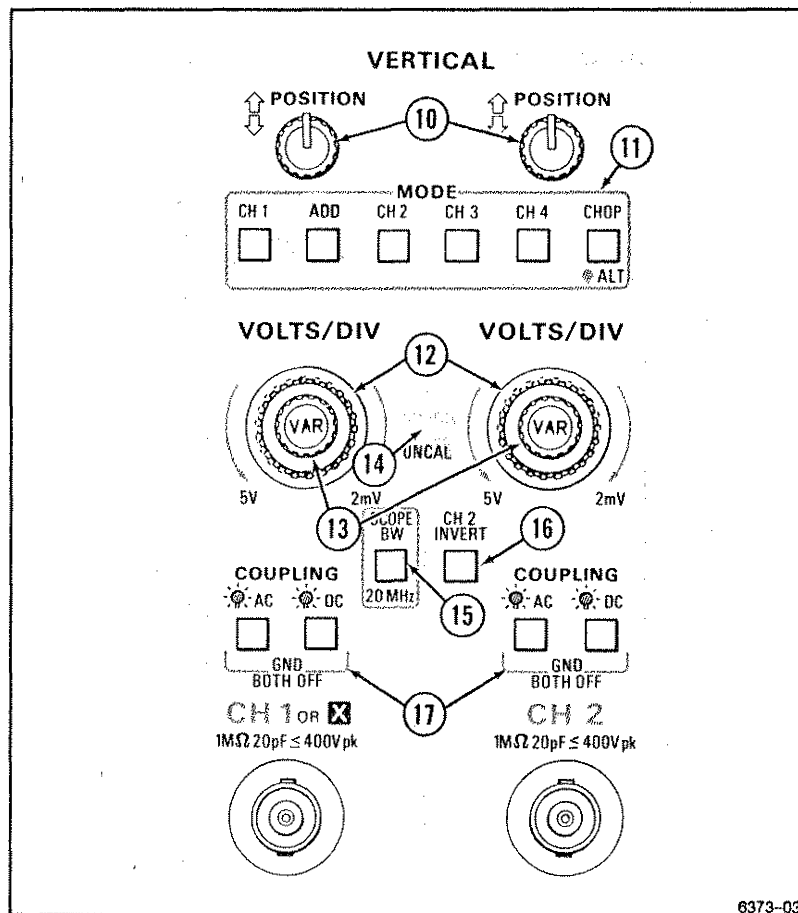

Figure 2-2. CH 1 and CH 2 vertical controls and Indicators.
Refer to Figure 2-2 for location of items 10 through 17.
- ⑩ **CH 1 and CH 2 POSITION Controls**—Adjust vertical position of the Channel 1 and Channel 2 waveform displays.
- ⑪ **MODE Buttons**—Select the vertical channels for display (CH 1, ADD channels 1 and 2, CH 2, CH 3, and CH 4). The CHOP/ALT MODE button selects method for switching input channels on the display (chopped or alternating).